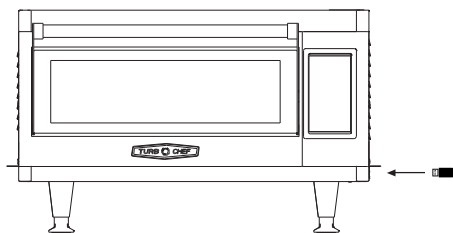

Figure 19: USB Port
1. When the oven is off or cooling down, insert the USB drive (Figure 19). The oven will automatically detect the device.